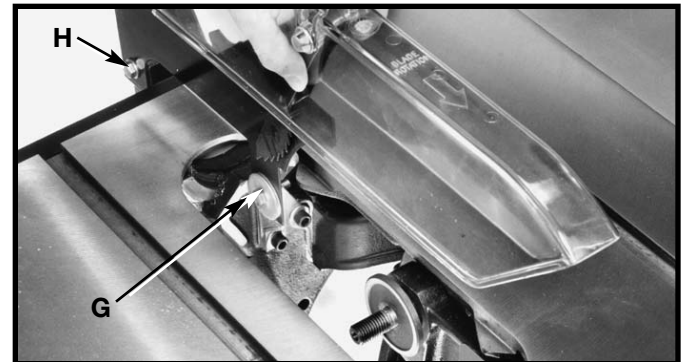
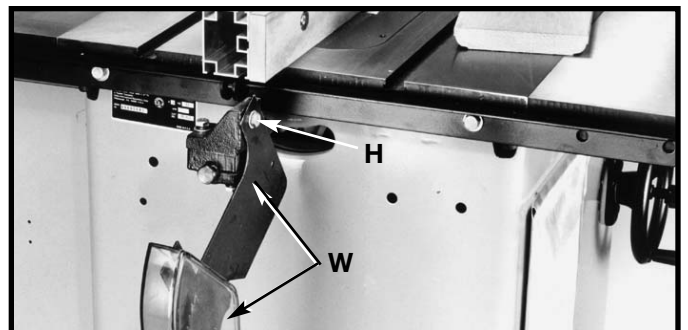

Fig. 81
Fig. 82
⚠ WARNING FOR CERTAIN CUTTING OPERATIONS (DADOING AND MOULDING) WHERE THE WORKPIECE IS NOT CUT COMPLETELY THROUGH, THE BLADE GUARD AND SPLITTER ASSEMBLY CANNOT BE USED. LOOSEN SCREWS (G) AND (H) FIG. 81. LIFT UP AND SWING BLADE GUARD AND SPLITTER ASSEMBLY (W) FIG. 82 TO THE REAR OF THE SAW AND RETIGHTEN(H).